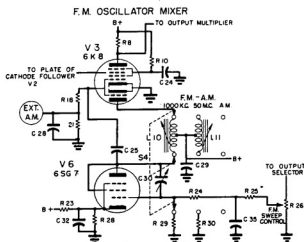

Figure 2.6 FM Oscillator - Mixer
b. As shown in Figure 2.6, the type 6K8 tube, V3, is a triode hexode converter tube used as an r-f oscillator to operate at either 1 mc, when utilizing inductance L10, or at 50 mc, when utilizing inductance L11. Either of these frequencies may be frequency modulated by means of type 68G7 reactance tube, V6, which is the electronic equivalent of the mechanically variable capacitor